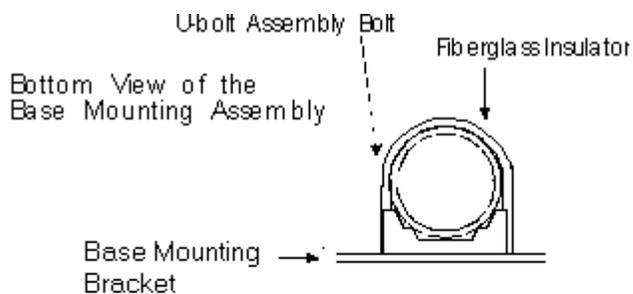

Figure 5
- [] 15. Secure the mounting bracket to the fiberglass insulator as shown in Figure 5. Make sure the antenna mast does not contact the U-bolts. The next four steps may be skipped if the antenna uses the MFJ-1904 Antenna Base.
- [] 1. The U-bolts should be attached to the base through the holes as indicated in Figure 5.